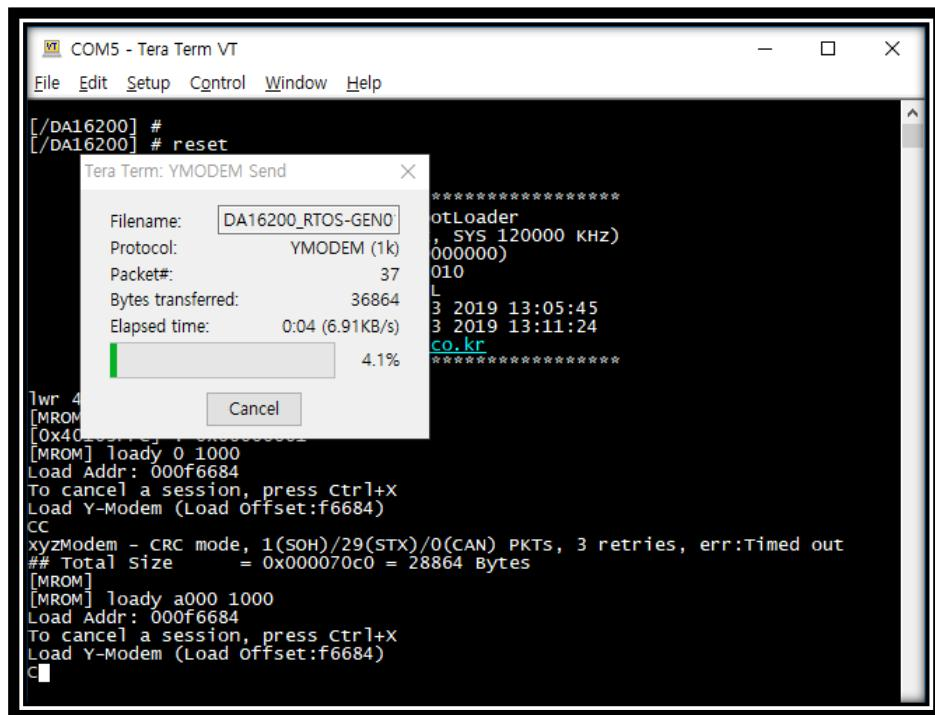

Figure 7. Programming FRTOS image
- Program RTOS image as shown in Figure 7.